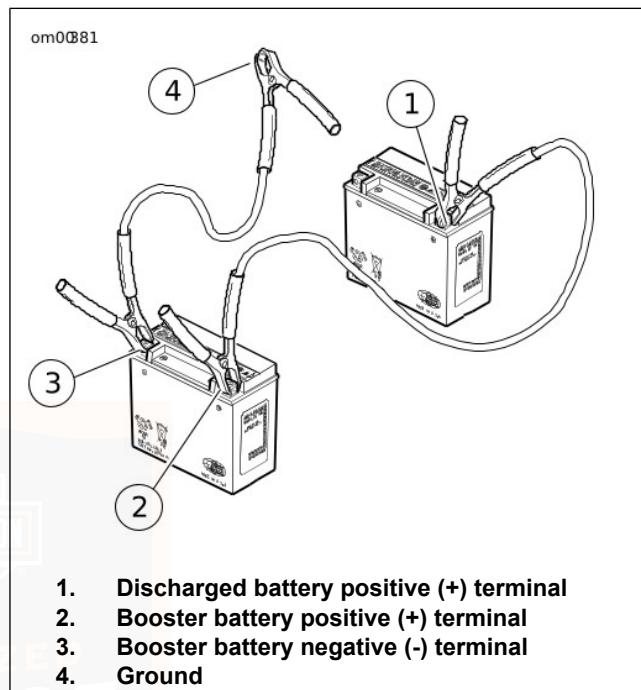

Figure 52. Jump Start Cable Connections
1. See Figure 52. Connect one end of a jumper cable to the DISCHARGED battery positive (+) terminal (1).
2. Connect the other end of the same cable to the BOOSTER battery positive (+) terminal (2).